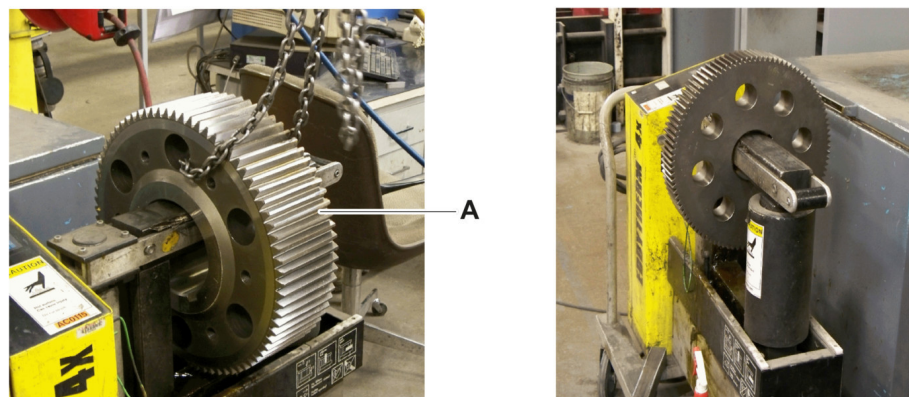

Figure 4
7. Heat the output gear (Figure 4, item A) to between 107 °C and 121 °C (225 °F and 250 °F). When correct temperature is reached, refer to Shrink Fit the Output Gear to install the output gear.